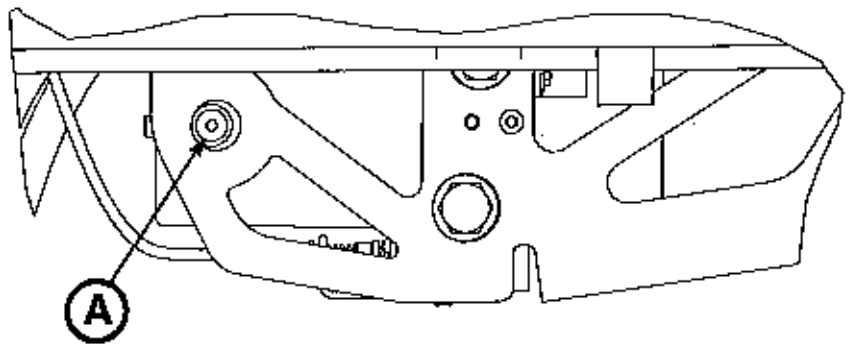

Figure 102
3. Remove the port plug (A) using a 3/16" hex wrench (Figure 102).